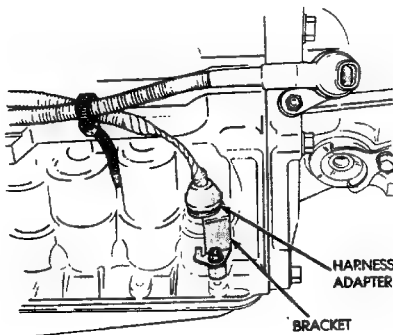

Fig. 10 Harness Adapter Removal/Installation
- (3) Remove bracket securing solenoid harness adaptor (Fig. 10) to case.
- (4) Pull harness adaptor and wires out of case.
- (5) Remove and discard adapter O-ring.
- (6) Lubricate new O-ring and install it on adapter.
- (7) Install solenoid wire harness and adapter in case.
- (8) Install adapter bracket and bracket bolt.
- (9) Connect wires to solenoids.
- (10) Install oil screen and oil pan.